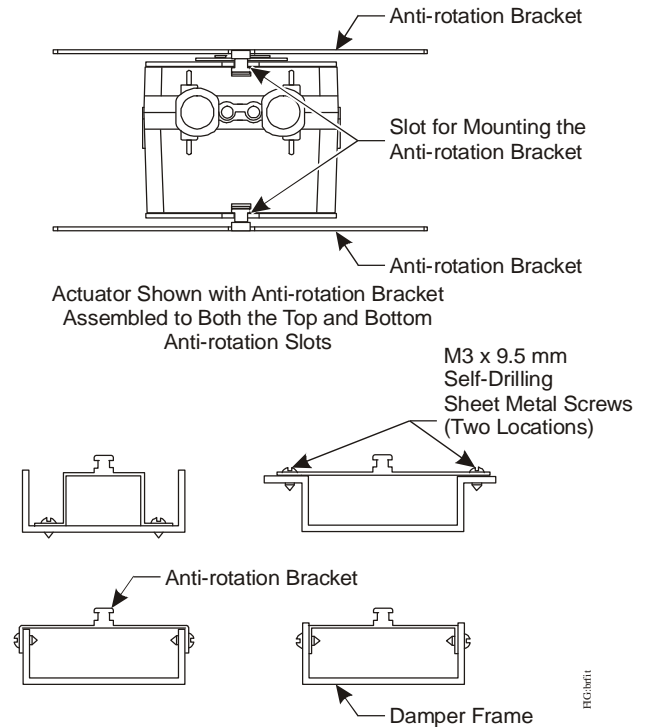

Figure 6: Fitting the Anti-rotation Bracket on the Damper Frame or Duct
2. Bend or cut the anti-rotation bracket to fit the damper frame or duct as illustrated in Figure 6.
5. Slide the actuator onto the damper shaft, and position the tab of the anti-rotation bracket into the slot at the bottom of the actuator as illustrated in Figure 6.